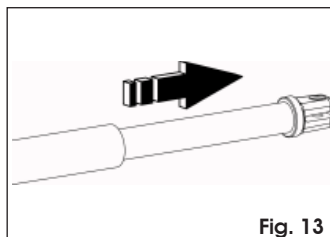

Fig. 13
4. Remove the pipe completely until it stops (Fig. 13).